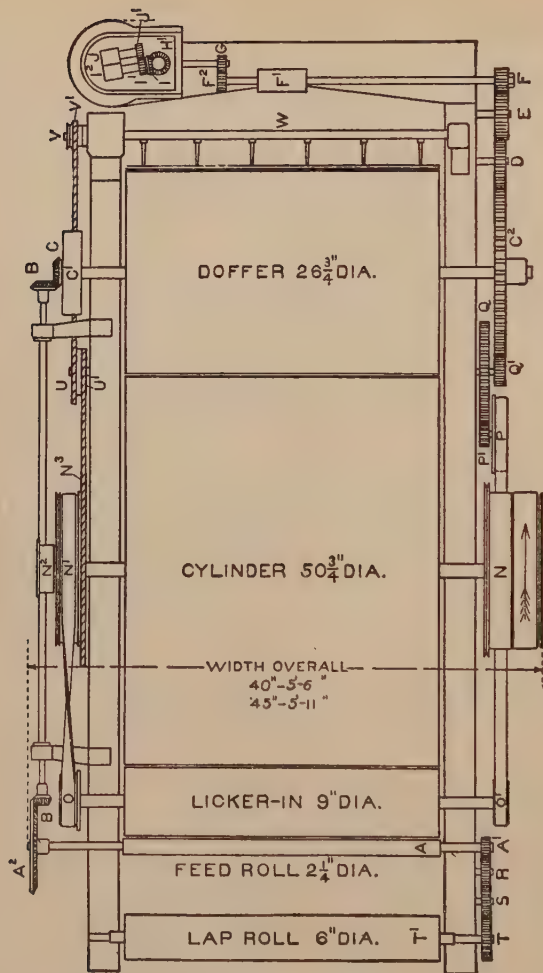
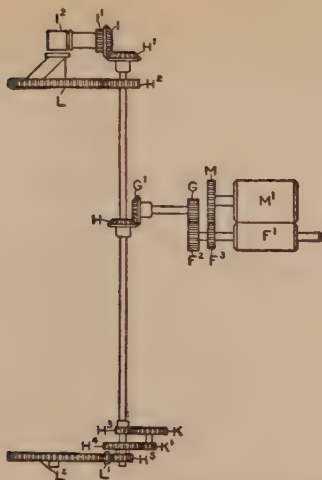

Figure 1. GEARING DIAGRAM OF A CARD
Figure 2. GEARING DIAGRAM OF A CARD COILER
65. Suppose we wish to change the beats per inch, and it is not practical to change the overhead pulleys or *B*, the beater pulley, figure 2. Answer the following questions by referring to figure 2 and the equations indicated below:
Figures 1 and 2 show the gearing of one make of card. Figure 1 shows a horizontal view of the card from the top. Figure 2 shows an upright view of the coiler from the main body of the card. Figure 2 is necessary to show the gearing between gears  $G$  and  $H^1$  of figure 1.
2. Using formula (1) find the draft of the card in figure 1 equipped as shown in combination 1 of the accompanying table, and with the draft change gear  $B$ , having 30 teeth.
4. Find the draft of the card in figure 1 equipped with combination 2 and with a draft gear of 20 teeth.
5. Find the draft of the card in figure 1 equipped with combination 3 and with a draft gear of 14 teeth.
Some of the gear and pulley combinations of the card shown in figure 1 are set forth in the following table. In some makes of cards the lick-in pulley is furnished in varying sizes.
If the card in figure 1 is equipped with combination 1, what draft change gears are required to insert the following drafts?
It is thus seen that regardless of the draft and the size of the draft gear the *product* of the draft and draft gear always equals a fixed number as long as the other gears and rolls remain unchanged. This fixed number is called the *draft constant*. Hence, the draft constant of the card in figure 1 equipped with combination 1 is 1604.95. Letting *dc* stand for draft constant and *dg* stand for draft change gear we have the following formulas:
If the card in figure 1 is equipped with combination 1 find the draft gear required to insert a draft of: